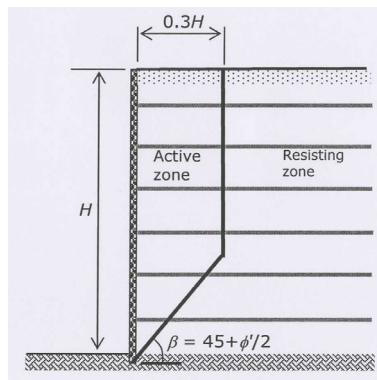

Figure 4
- The locus of maximum tension force in reinforcement is usually approximated by the two lines shown in Figure 4.